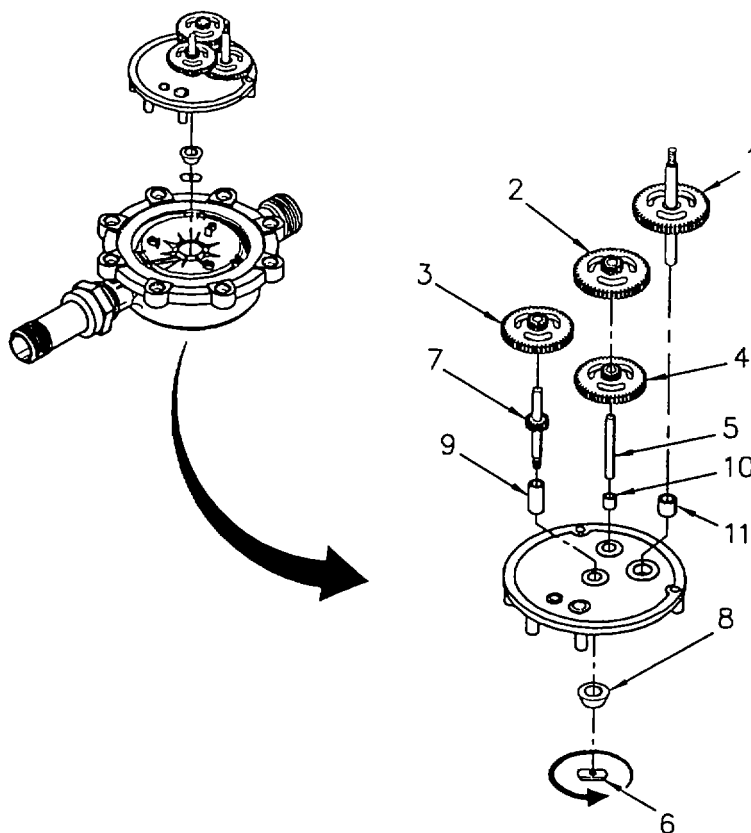

Figure 5-7. Gears and bearing Plate
- (e) Wiggle the gearbox bearing plate (8) while pushing down on cam output shaft (3). Pull and remove the gearbox bearing plate with gears and spindles attached as a unit.
- (f) Remove output gear E (1, Fig 5-7), gear B (2), gear C (3), gear D (4), and idler shaft (5).